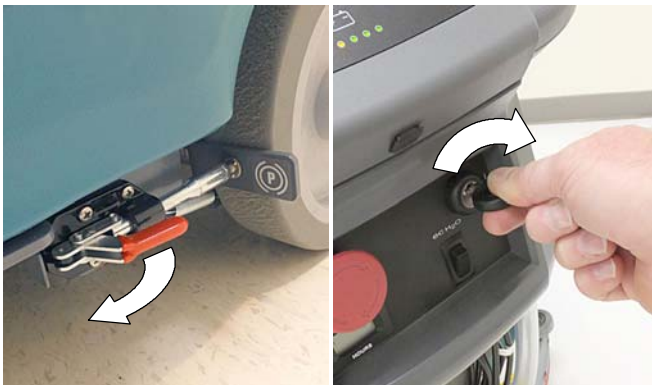

FIG. 34
1. Release the parking brake lever, if equipped (Figure 34)
2. Turn the key to the on ( I ) position (Figure 34).